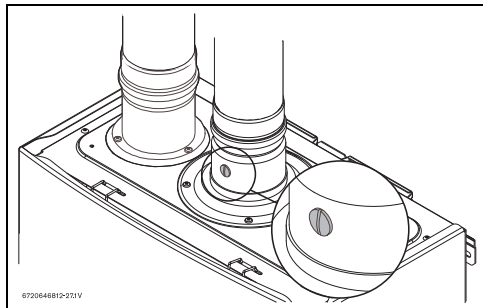

Fig. 72 Measuring port
- ▶ Remove brass flat head screw on the exhaust collar as seen in fig. 72.